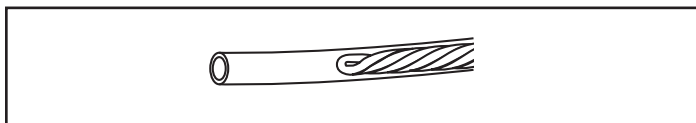

Figure 3. Stylet Position within Catheter
10. Retract stylet back to a position at least one cm within the catheter (Figure 3).